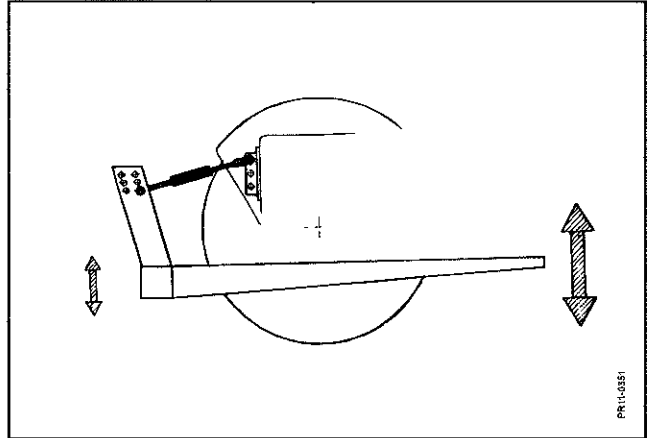

Fig.15
**Fig. 15** If you drive with one trailer so that the precision chopper must be disconnected and reconnected for every load it is an advantage if the lift suspension gives large movement up and down at the front and little movement at the rear. This will make it easier to “catch” the precision chopper from the ground without the trailer touching the ground. The large movement at the front is obtained by mounting the top link high up on the trailer and low on the lift frame.